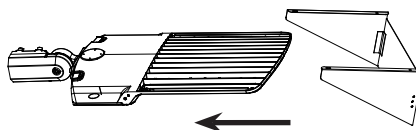

Fig: 4
3. Secure **Shield** on **Fixture** with (4) **Screws** (*provided*) as shown in Fig. 4.